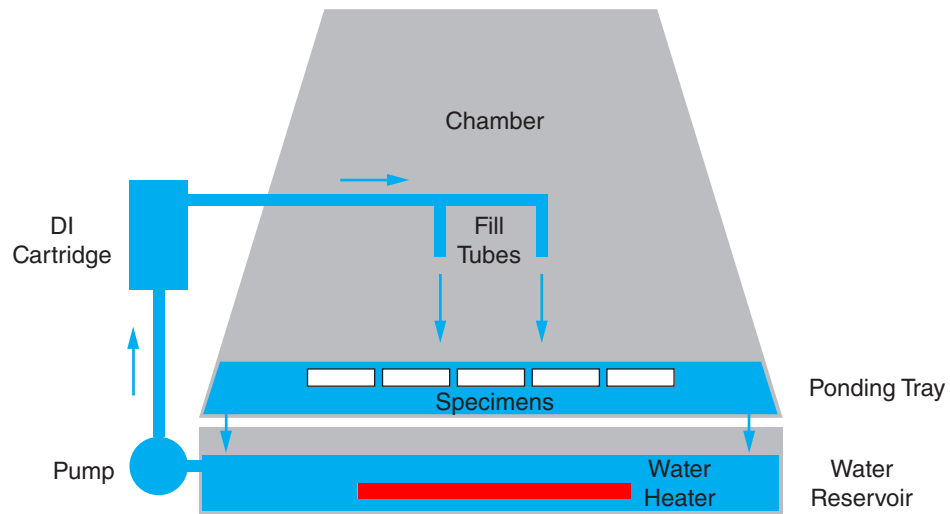

Figure 10.3f: Xe-1-WE water circulation schematic.
- During LIGHT + IMMERSION and DARK + IMMERSION steps the black panel temperature is controlled using the water heater instead of the air heater (Figure 10.3f).